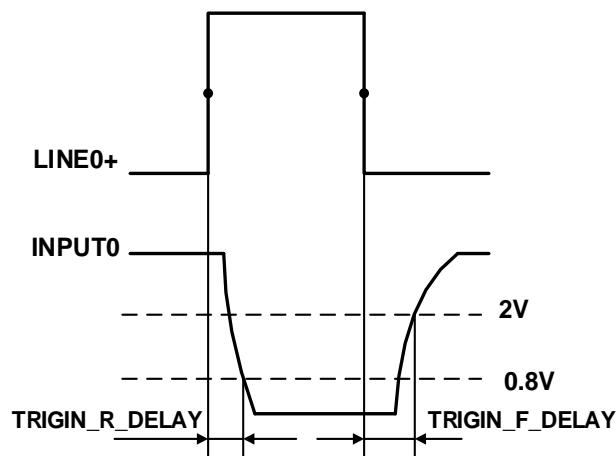

Figure 7-4 Parameter of opto-isolated input circuit
- Rising edge delay: <50μs (0°C~45°C), parameter description as shown in Figure 7-4
- Falling edge delay: <50μs (0°C~45°C), parameter description as shown in Figure 7-4
- Input rising time delay: <2μs (0°C~45°C), parameter description as shown in Figure 7-4
- Input falling time delay: <2μs (0°C~45°C), parameter description as shown in Figure 7-4